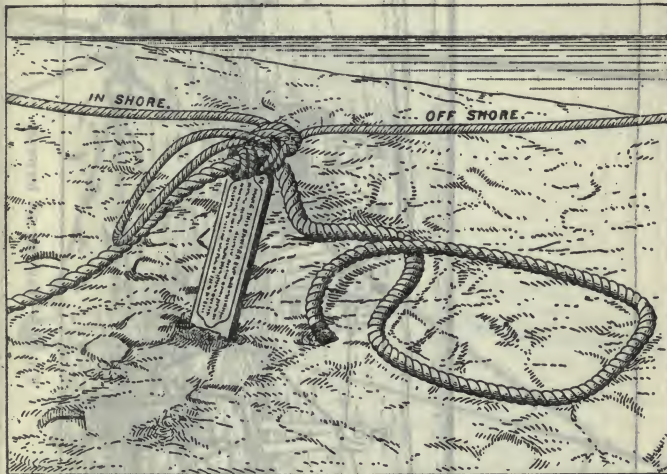

FIG. 8.—Manner in which bight of whip is bent to hawser.
(13) When the tail block has been made fast on board the wreck, the lee man (No. 1 or No. 2) bends the bight of the lee part of the whip to the hawser just inside the tally board, with a round turn around the hawser and a half hitch around the standing part of the whip, the end of the hawser hanging loose. Fig. 8 shows the method of bending the lee part of the whip to the hawser.